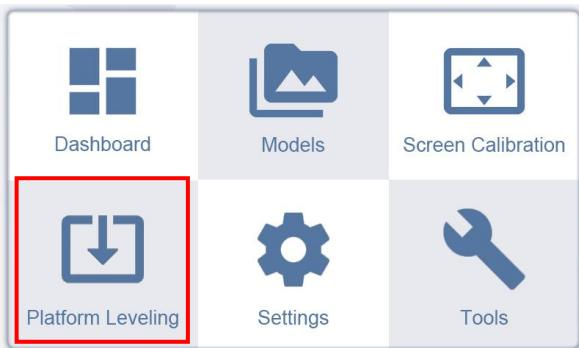

Figure 3-11
1. Click on 【Platform Leveling】 in the main menu as shown in figures 3-11 and 3-12 to enter the platform leveling mode.